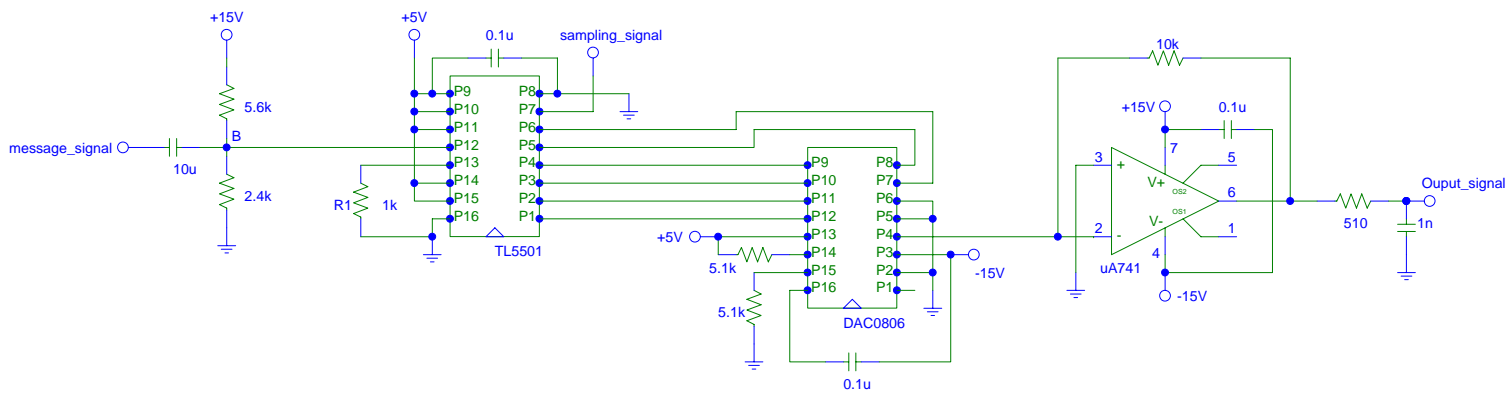

Fig. 3 PCM modem
4. Turn the power supply **off** and complete the assembling of the *modem* by adding the digital-to-analog converter as shown in Fig. 3. To avoid connection errors, begin connecting the power and ground connections to the DAC0806 and then the connections to the ADC.